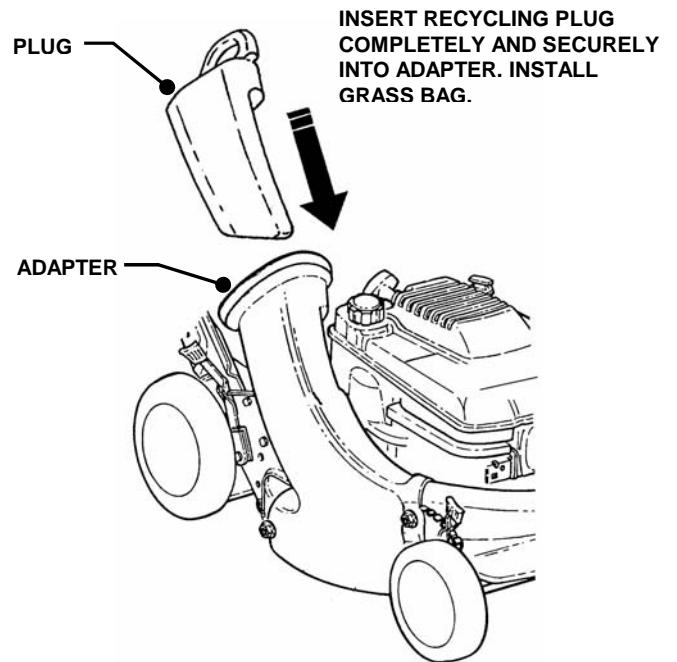

FIGURE 2.9
STEP 1: Once adapter has been installed, recycling may be desired. Insert recycling plug completely and securely into adapter. Install grass bag. See Figure 2.9.